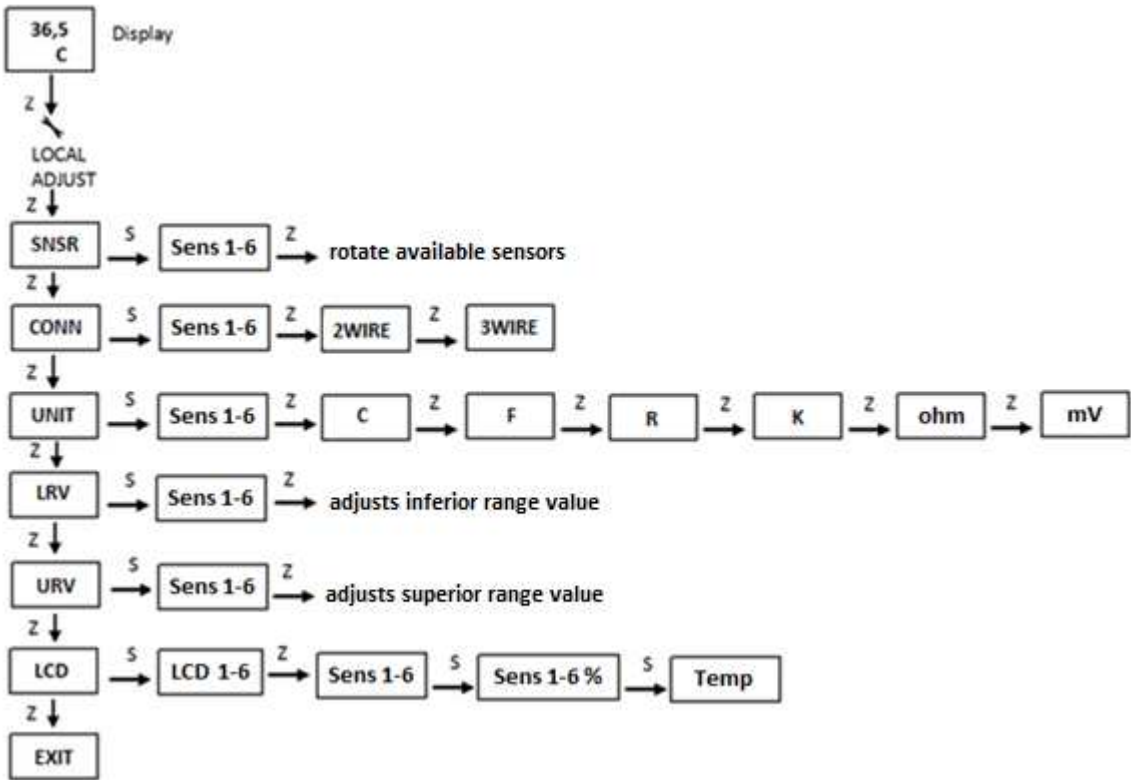

Figure 3.4 – Local adjust configuration tree.
For VTT10-MH, before configuring the selected menu, user must choose the sensor (among the six available) to be configured. This will be done by applying the magnetic key to Span (S), initiating the rotation of the available sensors. When the desired sensor is displayed, user must move the magnetic key to Zero (Z), starting the parameter configuration relative to the selected sensor. See configuration tree in figure 3.4
Figure 3.4 shows available fields for local configuration and the sequence they are presented by magnetic screwdriver actuation on Z and S marking.